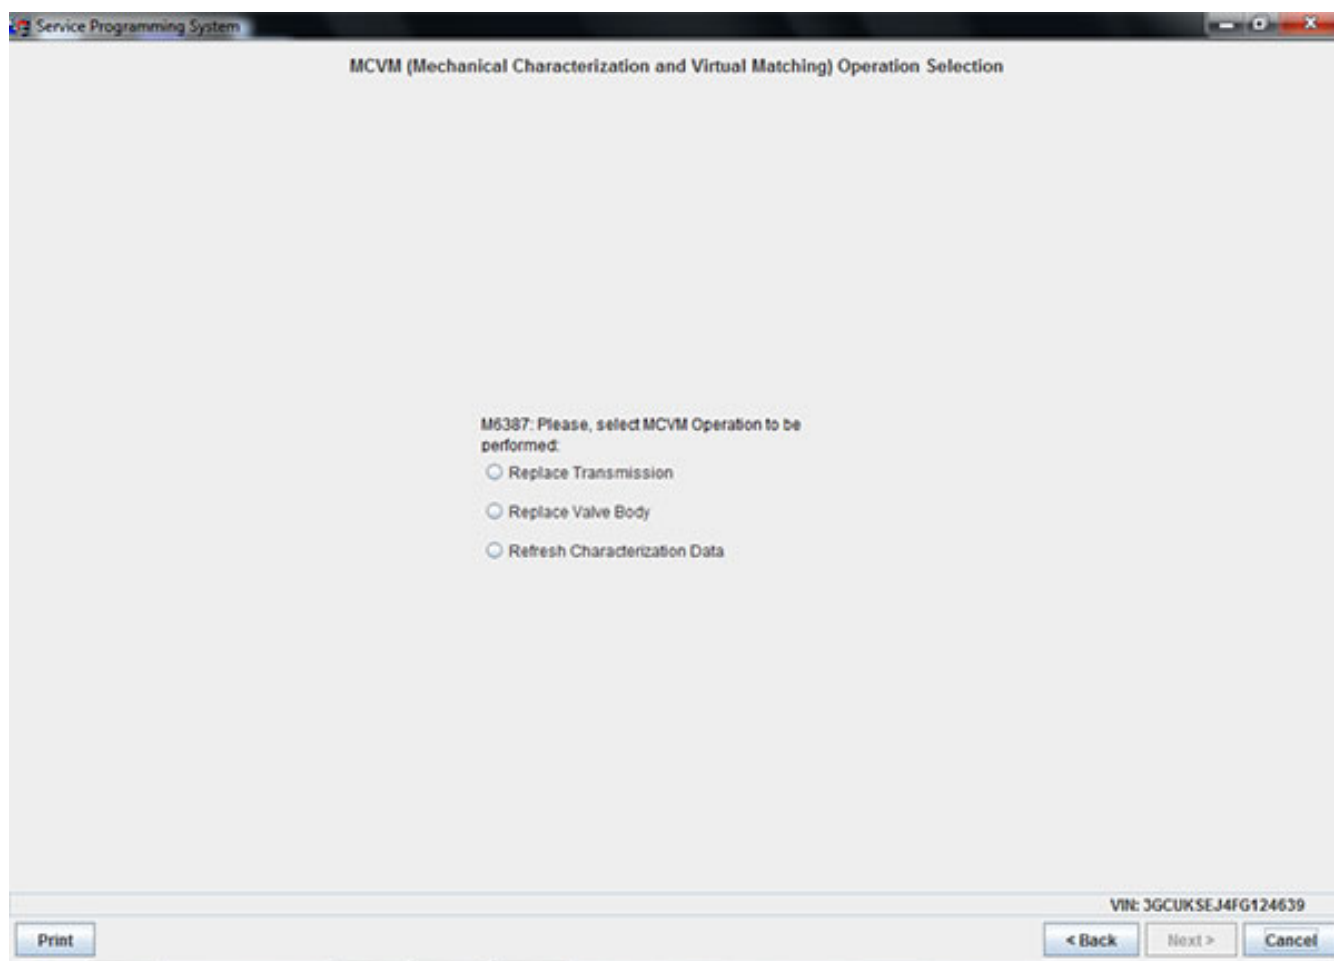
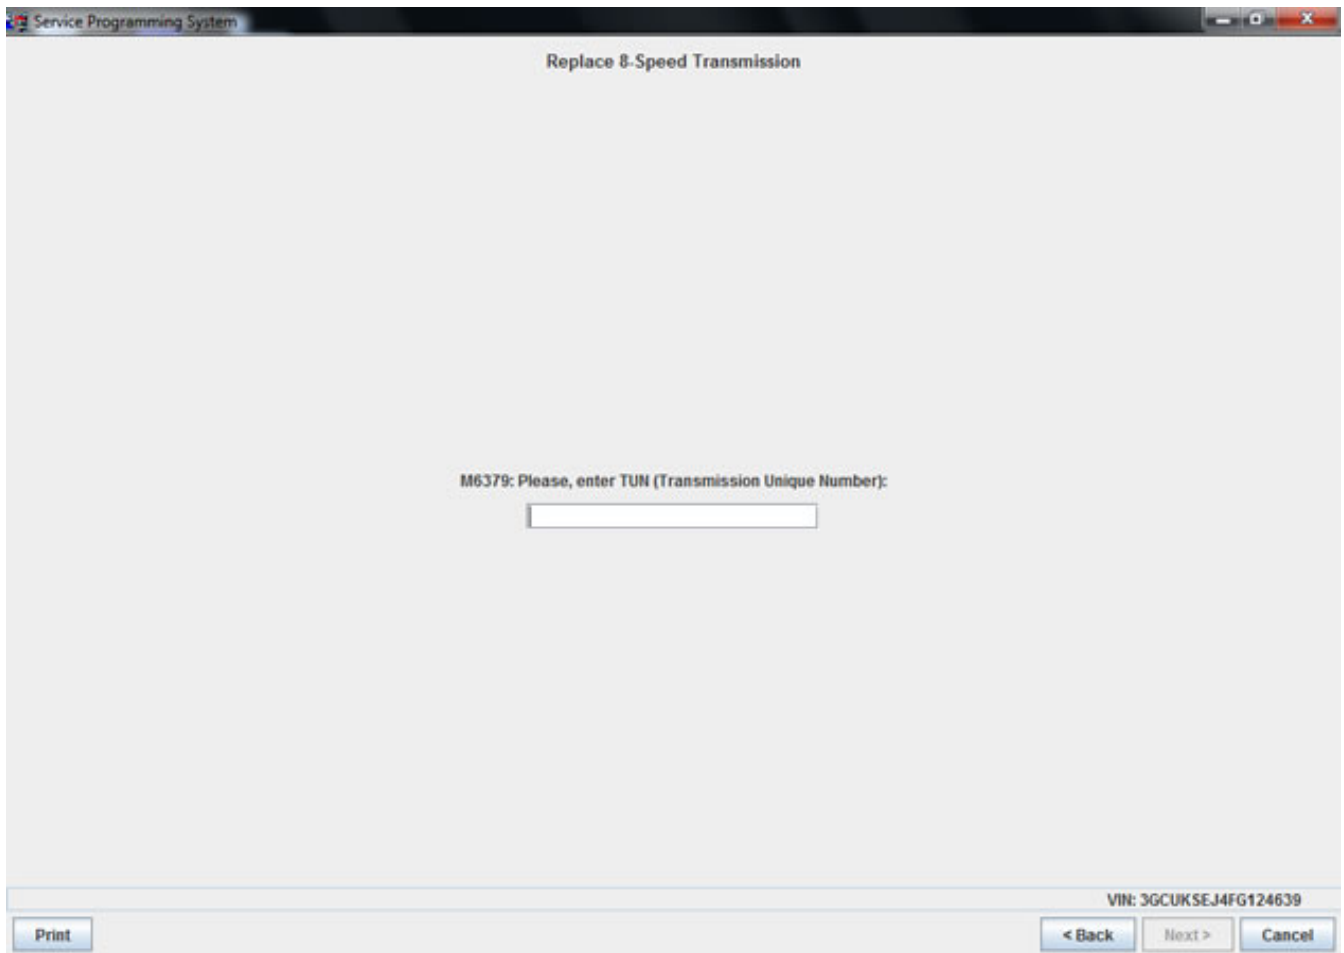

Fig 6
Fig 7
5. Select the applicable service procedure performed — currently only replacing transmissions (Replace Transmission button) or replacing the TCM (Refresh Characterization button) (Fig. 6) are allowed — and provide the necessary TUN or PUN. (Fig. 7)